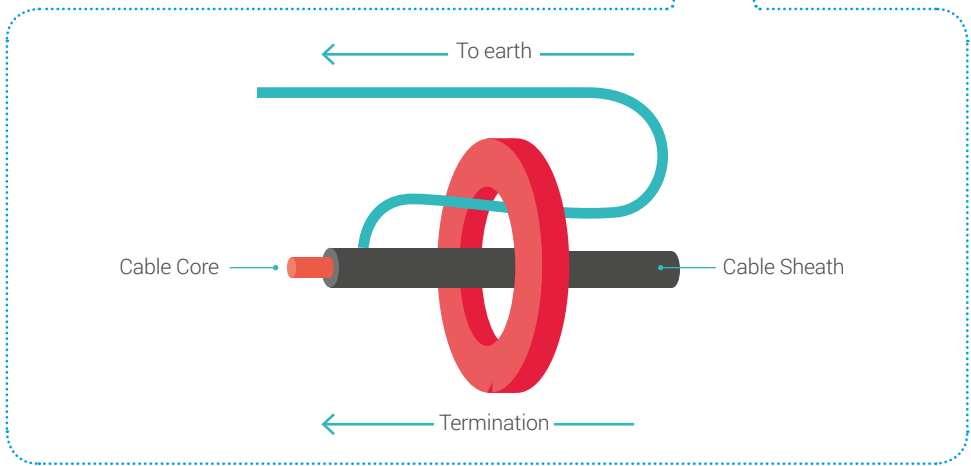

Figure 9: Close up - Overcoming cancellation of discharge currents by looping back earth strap
- i. By monitoring the earth cable only (A) - the preferred connection method
- ii. By monitoring the line conductor without the earth (B)
- iii. By monitoring the line conductor and earth within the sheathing and the earth cable external to the sheathing, when passed back through the HFCT (D, close up Figure 9).